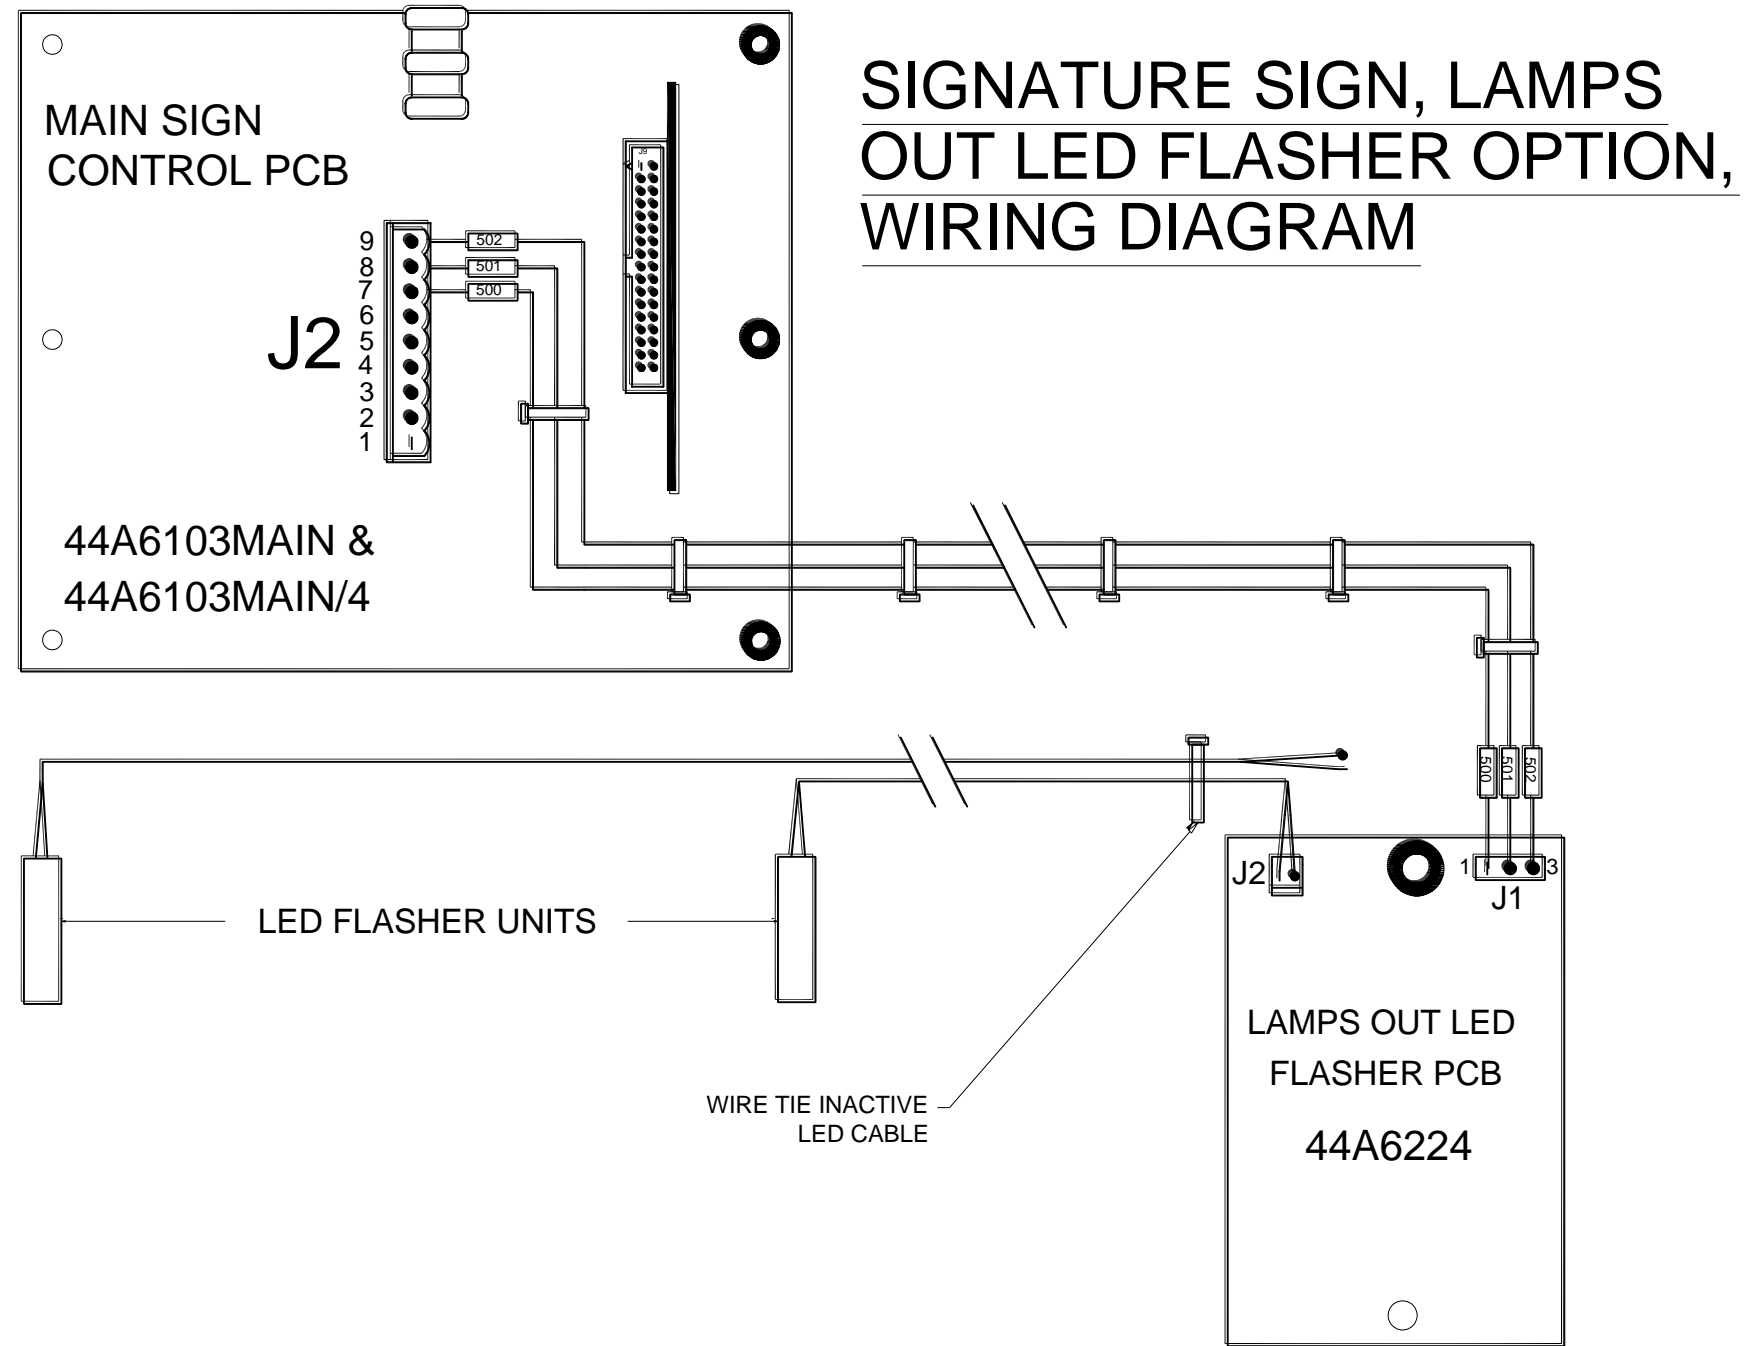

Figure 2 Lamps out Flasher Kit Wiring Diagram
3. Connect leads from the indicator to the Lamps-Out LED Flasher PCB terminal J2. Connect the flasher PCB to the main Sign Active Ballast PCB per the wiring schematic. See Figure 2.